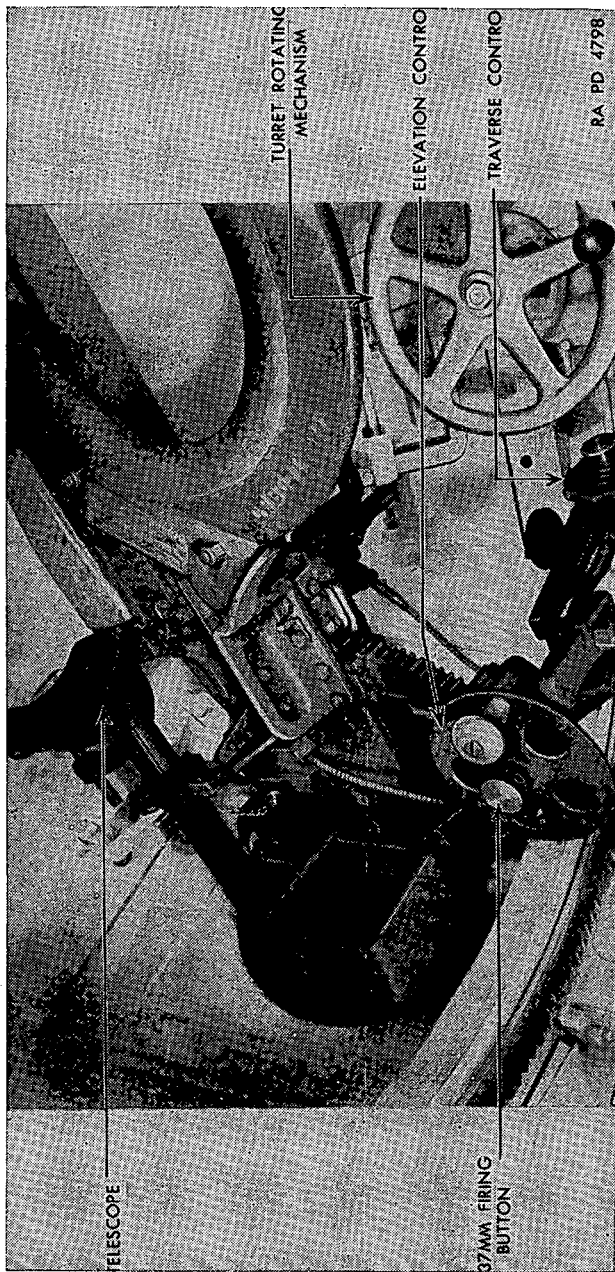

Figure 15.—37-mm gun mount, left side.
a. Combination gun mount M22 (figs. 15 and 16).—This gun mount is located in the turret and mounts a 37-mm and a cal. .30 machine gun. These are mounted together and move as one unit. The 37-mm gun is fired by depressing the plunger located in the hub of the elevating handwheel. Elevation up to 20° may be obtained by turning the elevating handwheel (fig. 15) toward the operator; a maximum of 10° of depression is obtained when the handwheel is turned in the opposite direction. A hand-operated traverse control handle on the right side of the gun provides 10° of traverse to the right or left. Clockwise rotation of the control handle traverses the gun to the right; anticlockwise to the left. A full 360° of traverse may be had by rotating the turret. The machine gun is fired by depressing the plunger in the center of the traversing handwheel. Both the 37-mm gun and the machine gun are operated by the turret gunner.
34. *Sighting equipment.*—A telescope sight is provided on the 37-mm combination gun mount (fig. 15). It is secured to the mount by a bracket and is equipped with a rubber face piece.